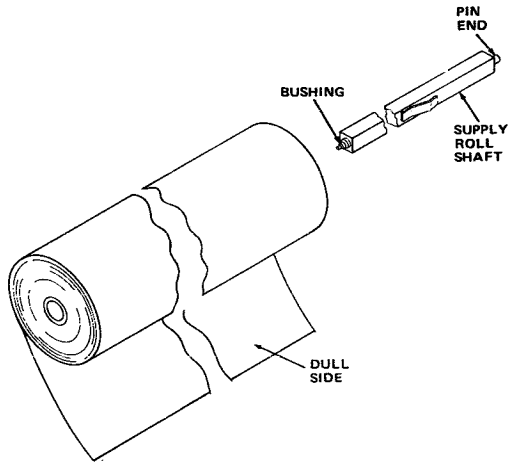

Figure 4.0.3 Inserting Upper Supply Roll Shaft Into Film Roll
8. Holding a new roll of film with the dull side (adhesive coated side) as shown in figure 4.0.3, insert the supply roll shaft into the film roll until square portion of shaft is centered in the roll.